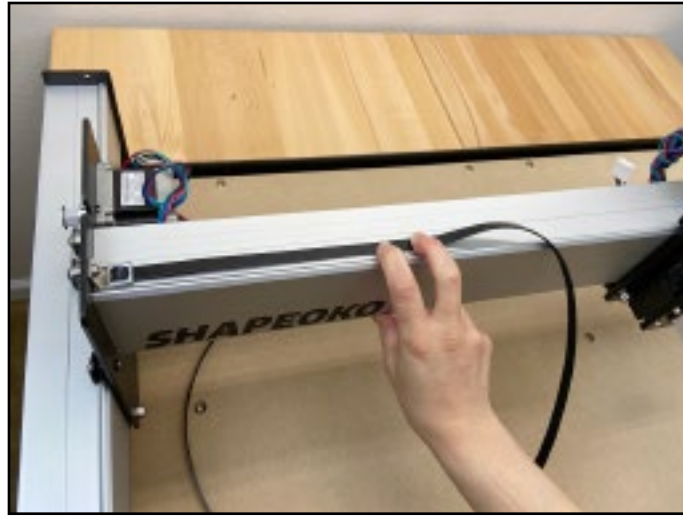

Figure 5-5
2. Set the belt clip on top of the X-rail next to the Y1-carriage. The belt should lay flat, teeth down, and extend along the X-rail towards the Z-Plus. Ensure the teeth of the bottom 2 inches of belt interlock with the top. See **Figure 5-5**.
3. Use the 4mm hex key and one (1) M5x10mm socket head cap screw to attach the belt clip to the Y1-carriage. Insert the screw from the **OUTSIDE** and tighten. See **Figure 5-5**.